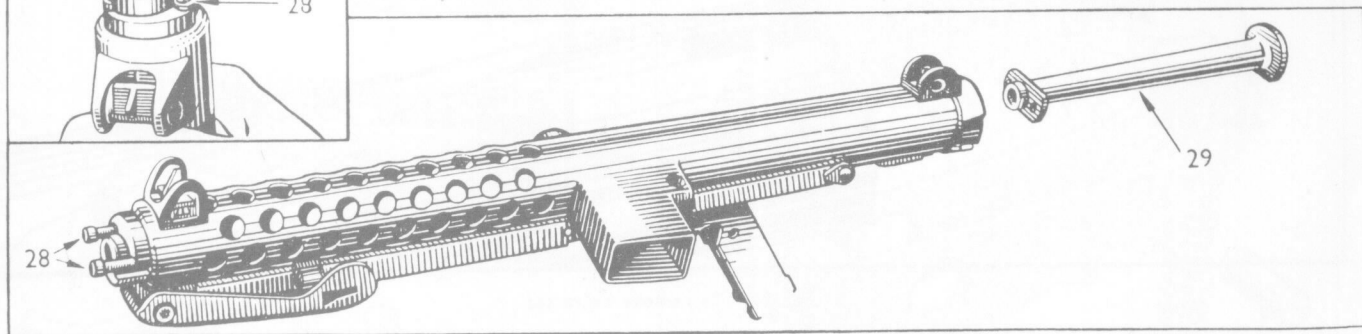

Fig. 15. To remove barrel
**9.5 TO REMOVE BARREL** (Fig. 15). Partially unscrew the two barrel retaining screws (28) as shown using  $\frac{3}{16}$ " Allen key. Protect these with a piece of wood and using a mallet drive barrel back from its seating. Remove screws and rotate barrel (29) to clear bayonet lug and withdraw from body.